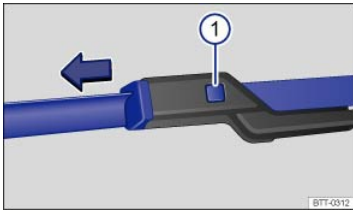

Fig. 163 Changing the windshield wiper blades.
- With one hand, press and hold the release button ⇒ *Fig. 163* ⓘ.